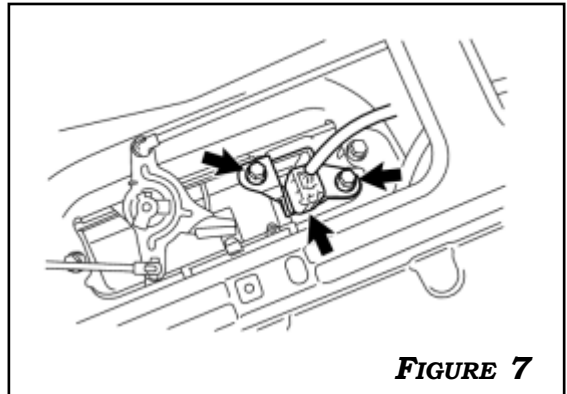

FIGURE 7
7. **DISCONNECT THE CONNECTOR AND REMOVE EXISTING WIRING CABLE IN TAILGATE.** REMOVE (2) 10MM BOLTS FROM DUMMY HOUSING. DISCARD DUMMY HOUSING. THE BOLTS WILL BE NEEDED LATER FOR THE CAMERA INSTALL. **FIGURE 7**